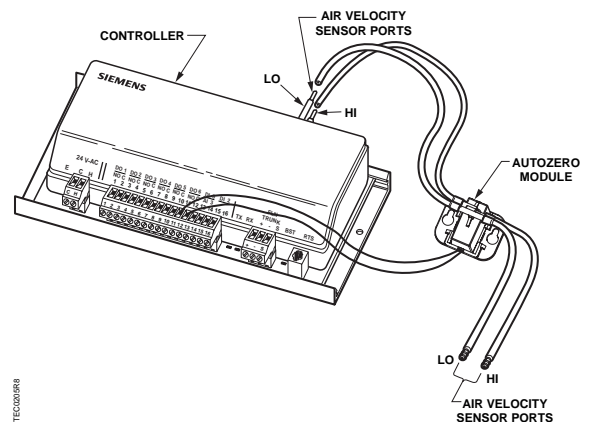

Figure 5. Constant Volume Controller—Electronic Output with Autozero Module.
6. **540-104 and 540-104C:** Install the Autozero Module and connect the wires to DO6 (Figure 5). See installation instructions 540-199.
9. Connect the tubing from the air velocity sensor pickups to the ports on the controller or Autozero Module (Figure 5). Connect HI to HI and LO to LO.